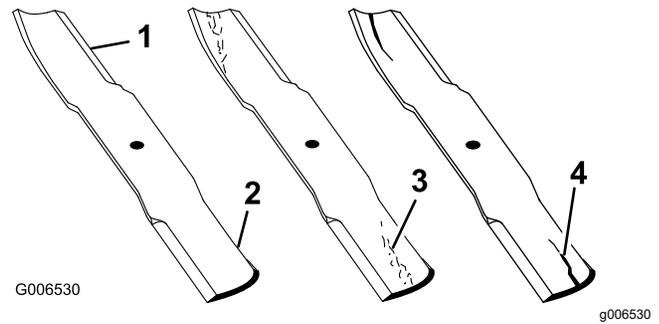

Figure 107
1. Inspect the cutting edges (Figure 107).
4. If you notice any cracks, wear, or a slot forming in this area, immediately install a new blade (Figure 107).